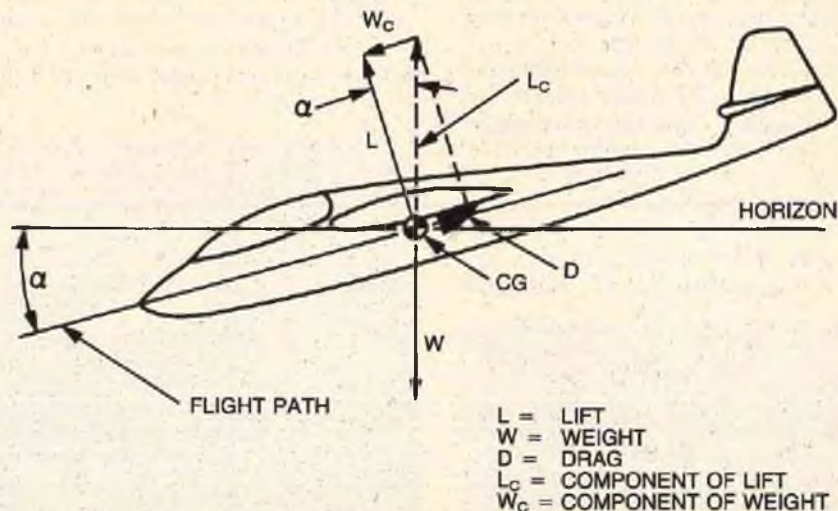

FIGURE 1
the sailplane, the net effect is a relative increase in altitude. In the absence of this upward moving body of air (thermal or slope) the sailplane will fly in what is termed a condition of (7) dynamic equilibrium. See Figure 1.
Dynamic equilibrium is similar except that the object is in motion. For dynamic equilibrium to exist, the object must remain in motion at a constant velocity and in a constant direction. All forces acting on the object must be balanced. Figure 1 shows a typical sailplane in dynamic equilibrium and the forces acting on the model are represented by arrows. These arrows are called vectors and they show the direction of the force and the magnitude of the force (length of the arrow). Note that W always points straight down, L is at right angles to the flight path, D is rearward along the flight path, L_C is opposite and equal to W and W_C , while shown at the ends of L and L_C for clarity is actually along the flight path equal to and opposite to D .